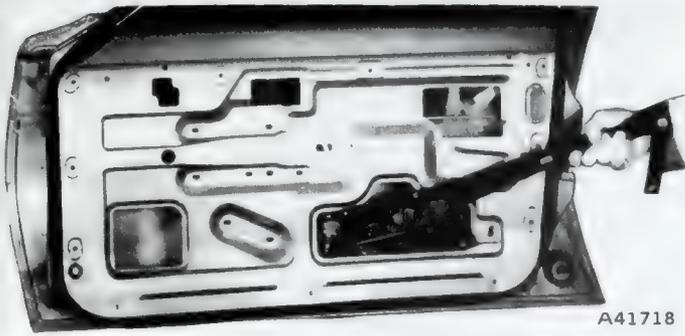

Fig. 3J-25 Window Regulator Removal—Gremlin-Concord-AMX
The door glass slide channel is an M-shaped, flocked rubber channel. A lip on each side of the slide channel engages the window frame just behind the rolled edge of the window frame opening (fig. 3J-20).
- (1) Remove door trim panel and water dam paper.
- (2) Lower window and remove regulator attaching screws and lower regulator arm pivot link nut (fig. 3J-23).
- (3) Tilt glass to disconnect window from front channel.
- (4) Push regulator through inner panel and move glass and regulator assembly past front guide channel toward hinge area.